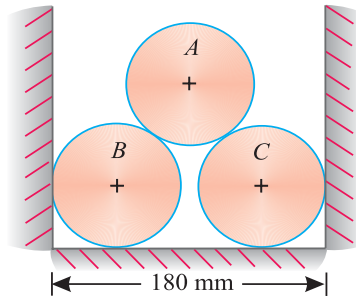

Fig. 5.16.
**Example 5.7.** Three cylinders weighting 100 N each and of 80 mm diameter are placed in a channel of 180 mm width as shown in Fig. 5.16.